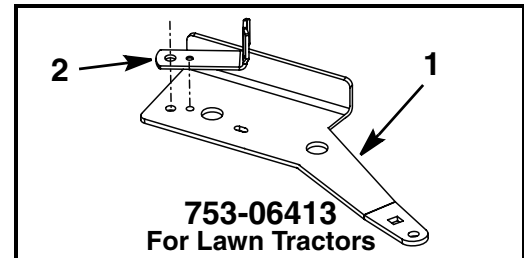

FIGURE 1
(See Figure 1)
14. Place the new Belt Guard, 783-06368A (Item 2), onto the new idler arm bracket. Ensure that the boss on the bottom of the belt guard sets into the hole provided in the idler arm bracket to properly orient the belt guard. See Figure 1.